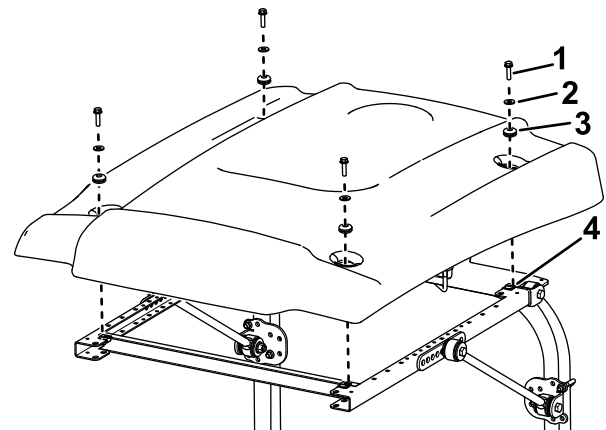

Figure 49
9. While aligning the mounting holes, position the sunshade onto the frame as shown in Figure 49.
10. Loosely mount each corner of the sunshade to the frame with a flange-head bolt (5/16 x 1 inch), a small washer, and a grommet (Figure 49).